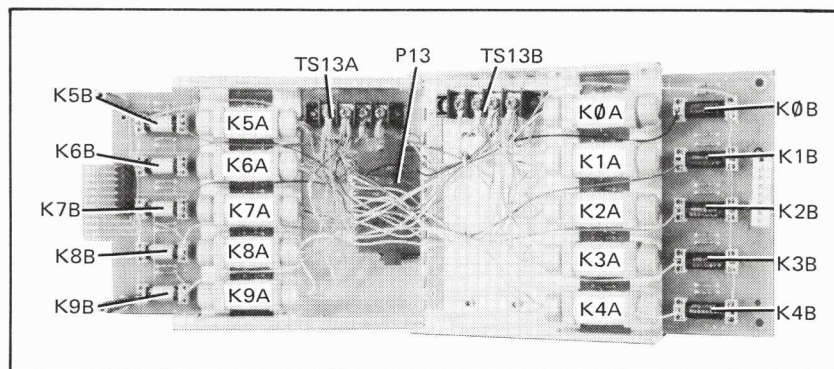

Figure 7-B-13. Relay Locator.
7. To remove the High/Low relay, first remove the two wires attached to the terminal strip, TS13A or TS13B. Then remove the last two wires from the plug, P13; refer to Figure 7-B-14.